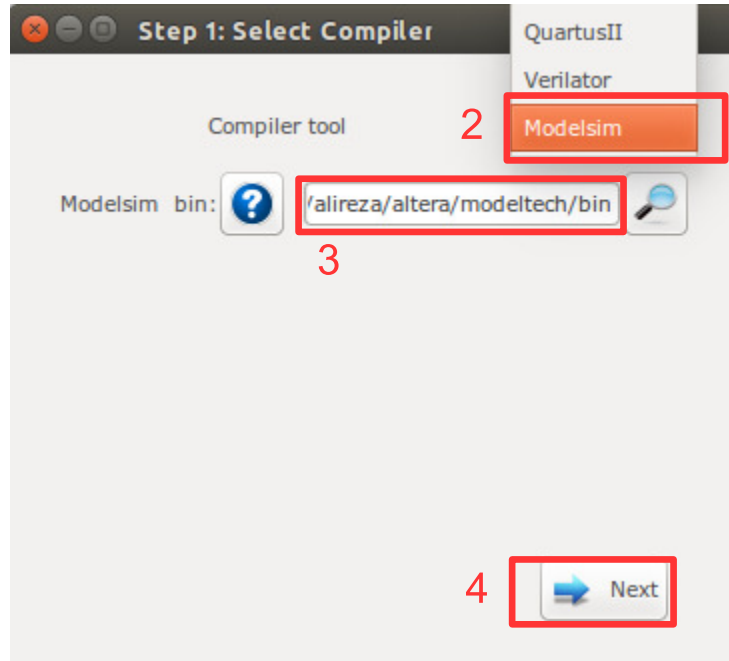

Figure 5.16: Compile the software code.
1. Press Compile RTL button  in right down corner. This should open "select compiler window" as shown in Figure 5.16.